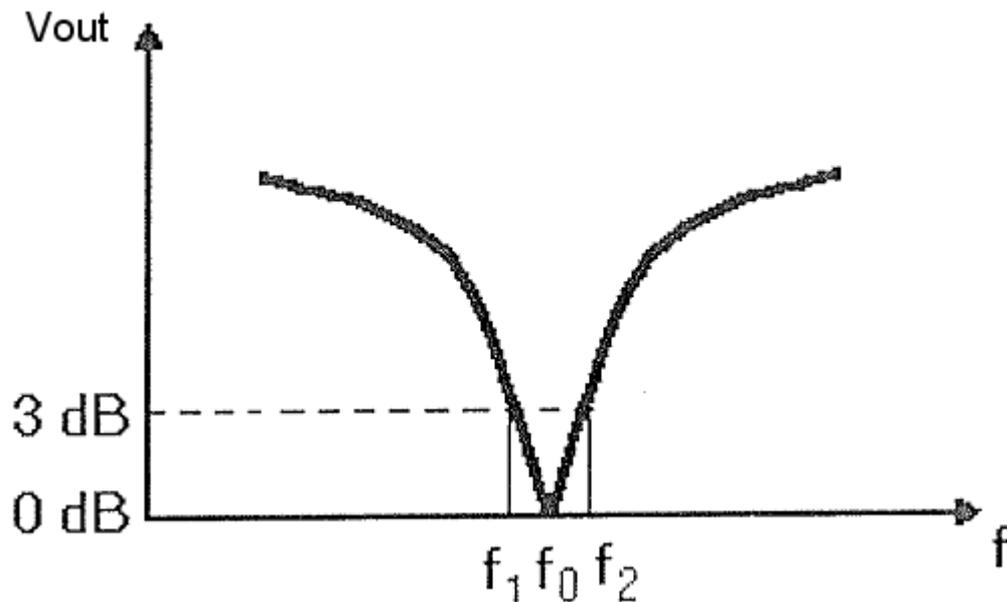

Figure 2. : band-stop filter transfer function
This four-pole acts like a band-stop filter (figure 2.) Its quality factor  $Q$  can be calculated, using notation of figure 2., as:
b) Use the function generator to provide a 10 Vpp sinewave to the input of the double T. Measure the transfer function ( $V_{out}$  vs frequency) between 20Hz and 20kHz. Use more detailed sampling in places where the function changes rapidly. Find values of  $f_0$ ,  $f_1$  and  $f_2$  (as in figure 2). Use an oscilloscope or multimeter (in AC setting).
$Z_1$  is maximum at  $f_0$ , thus the circuit's transfer function behaves as in figure 2.